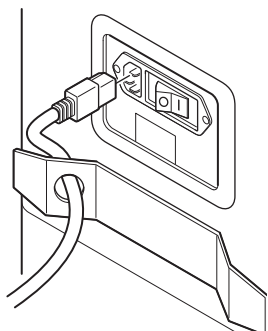

Figure 9 Power Cord Strain Relief
1. Connect the rover to facility electrical power using the power cord. Thread the appropriate plug of the power cord through the strain relief hole before connecting the cord to the rover (see figure 9).